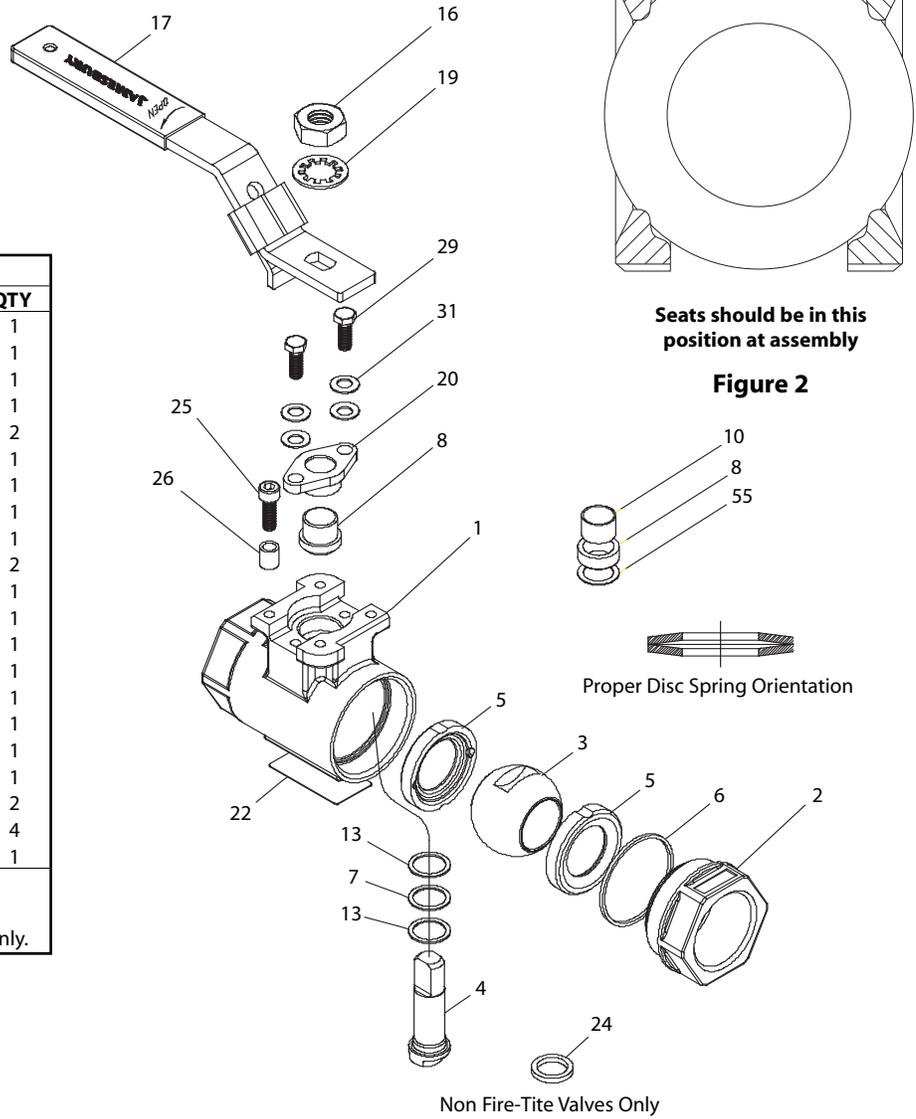

Figure 3
4. Place the stem bearing (24) on the stem (4). **NOTE:** Fire-Tite valves have 2 stem bearings (13) and a secondary stem seal (7) as shown in **(Figure 3)**.
5. Insert the stem (4) with the bearing(s) into the valve body and through the stem bore in the body, as shown in **(Figure 3)**.
6. Holding the stem in place from the inside, install the stem seal (8) and the compression plate (20).
7. Place the disc springs (31) on the hex head cap screws (29). Disc spring orientation is shown in **(Figure 3)**. Install the hex head cap screws through the compression plate and bring them down hand tight.
8. While pressing the stem (4) outward from inside the body, tighten the hex head cap screws to the torque provided in **(Table 1)**. Apply torque evenly, alternating between the two cap screws so that the compression plate will be parallel with the valve body bonnet.
9. Align the stem to the ball slot. Insert the ball (3) so that the internal stem blade fits into the ball slot.
10. To prepare for final assembly, obtain a torque wrench. When assembling without a torque wrench, install the body cap (2) into the body (1) without the second seat or the body seal. Tighten firmly by hand or snug with a wrench.